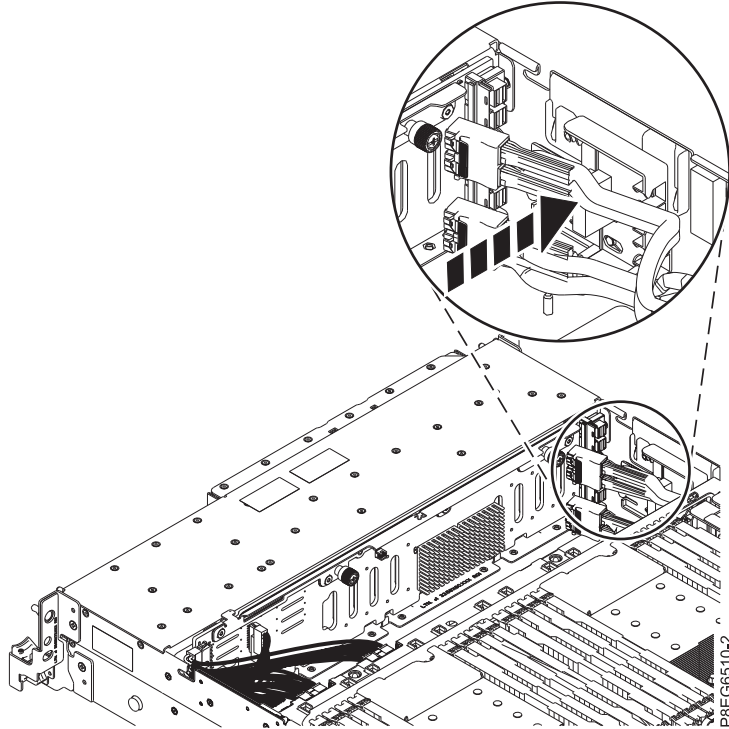

Figure 5. Reseating the front SAS cable into the guide block
8. Reseat the front SAS cable into the guide block on the side of the chassis, as shown in Figure 5 on page 7.